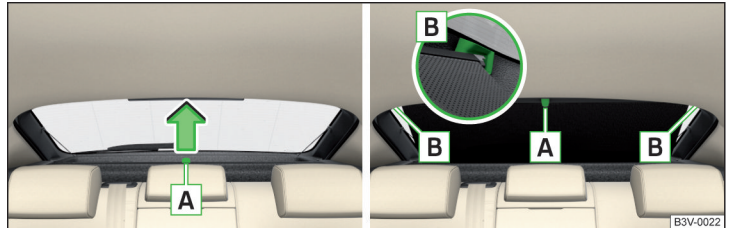

Fig. 67 Sun screen
- Pull the sun blind on the handle **A** in the direction of arrow » Fig. 67 and hook in the magnetic brackets **B**.
- Remove the sun blind from the handle **A** » Fig. 67 out of the bracket and hold it in such a way that it can roll up slowly into the housing without being damaged.